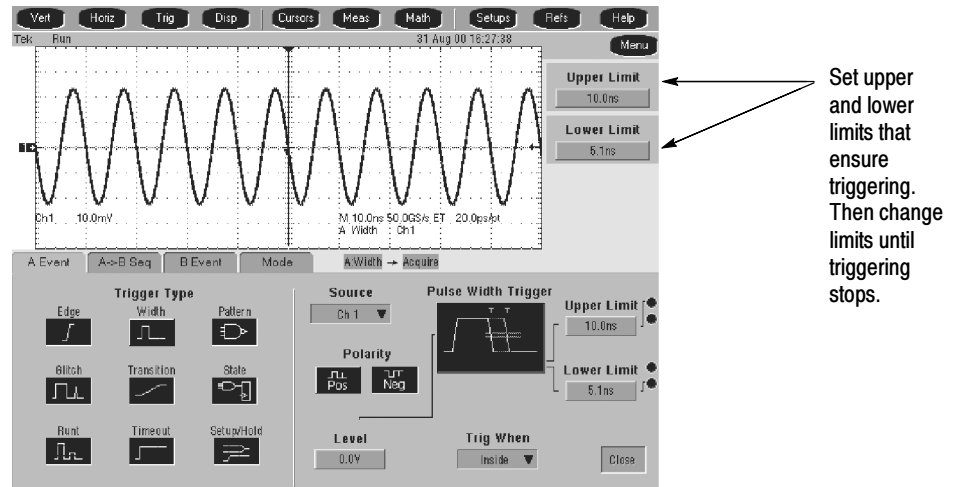

Figure 4-18: Measurement of time accuracy for pulse and glitch triggering
- c. *Set upper and lower limits that ensure triggering:* See Figure 4-18.